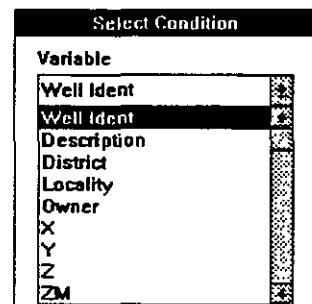

Figure 5-12
3. Click on the arrow next to the Well Ident field, and see the list of parameters popping down. If there are more parameters than the size of the window there will be a slide bar on the right side. This is shown in Figure 5-12.